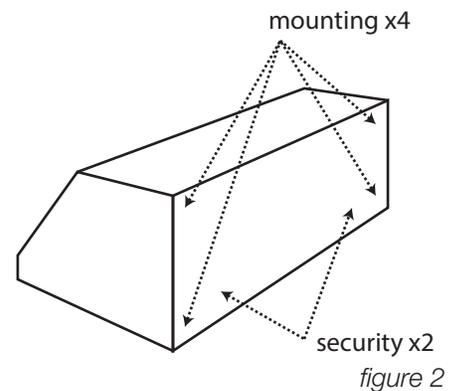

figure 2
2. Mark the location of the FOUR mounting holes as well as TWO security holes on the wall (figure 2).